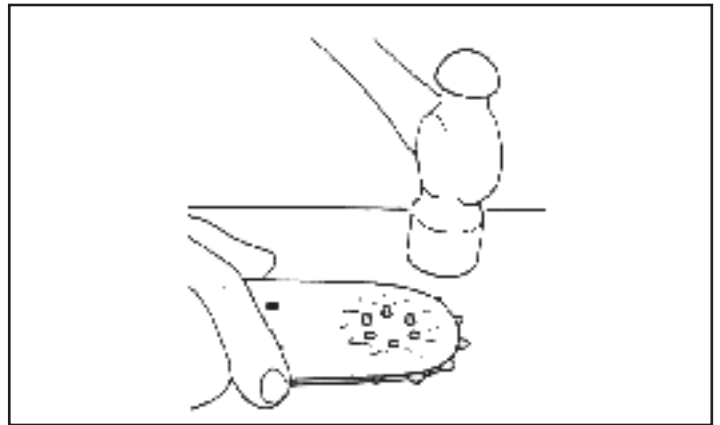

Figure 28. Replacing Rivets
6. With the bar and rivets solidly supported on a strong flat steel surface, carefully peen the rivet heads down with the flat end of a hammer. Be careful to only hit the rivet head. Do not hit the bar body; this will pinch the nose sprocket. Rivet heads must completely fill the countersinks in the bar body and be snug and secure while still allowing the sprocket to freely turn. See Figure 28.